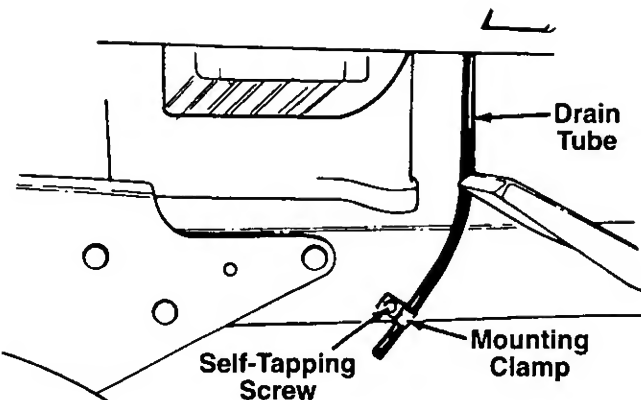

FIGURE 11.
5. Route the battery drain tube over to the left side of the tractor. Loosen the self-tapping screw which secures the mounting clamp. See figure 11. Slip the end of the drain tube into the mounting clamp. Tighten the self-tapping screw to secure the clamp. Do not overtighten which could collapse the drain tube.